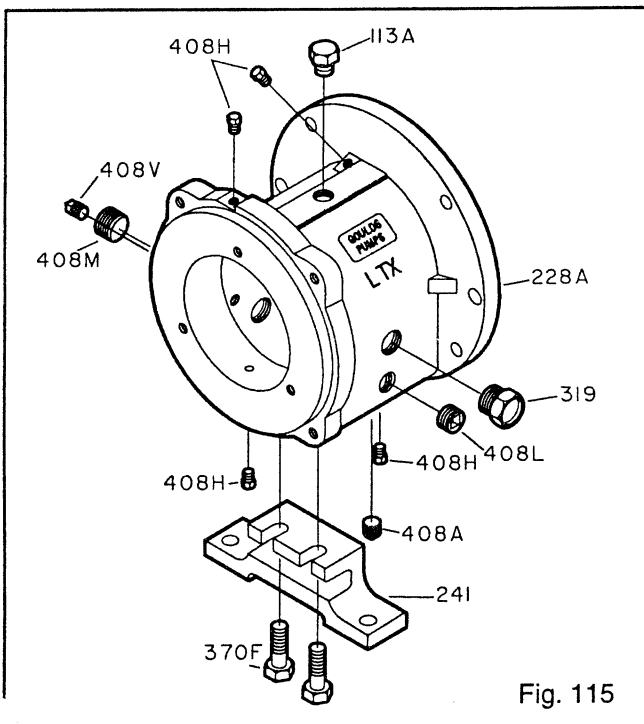

Fig. 115
1. Install the oil fill plug (113A), oil drain plug (408A), sight window (319), sight oiler plug (408J), four oil mist connection plugs (408H) or grease fittings (193) and grease relief plugs (113), and oil cooler inlet and outlet plugs (408L, 408M) in bearing frame (228) (Fig. 115).
2. Attach bearing frame foot (241) with bolts (370F). Hand tighten.